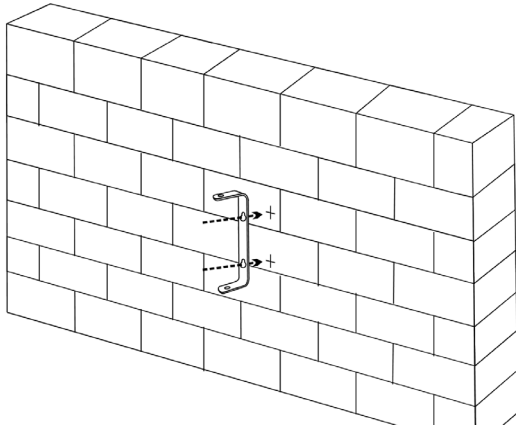

Fig. 2: Assembly
Step 1: Select a suitable position on the wall (Fig. 2).